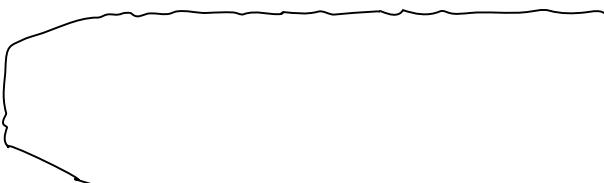
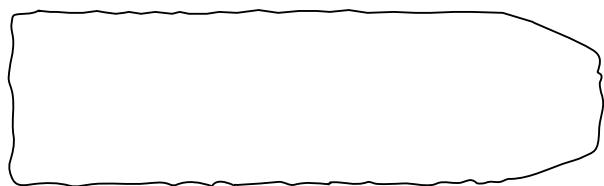
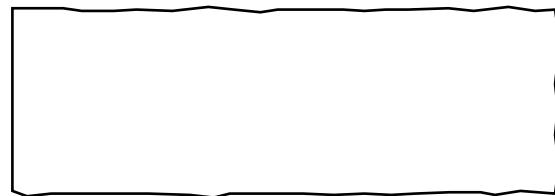

Fig. 5-4-7
Fig. 5-4-8
Fig. 5-4-9
3. If the envelope is as shown in Fig. 5-4-7, adjust the height of Guide Roller [2] (Refer to Fig. 5-4-3) so that the waveform looks like the one shown in Fig. 5-4-9.
4. If the envelope is as shown in Fig. 5-4-8, adjust the height of Guide Roller [3] (Refer to Fig. 5-4-3) so that the waveform looks like the one shown in Fig. 5-4-9.
5. When Guide Rollers [2] and [3] (Refer to Fig. 5-4-3) are aligned properly, there is no envelope drop either at the beginning or end of track as shown in Fig. 5-4-9.